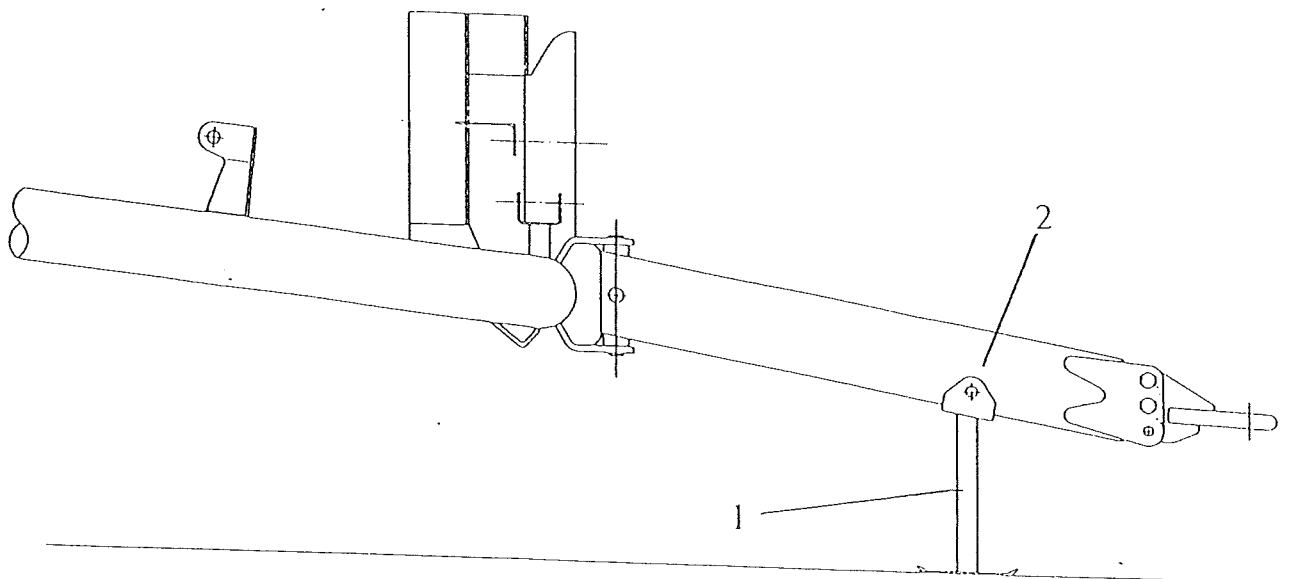
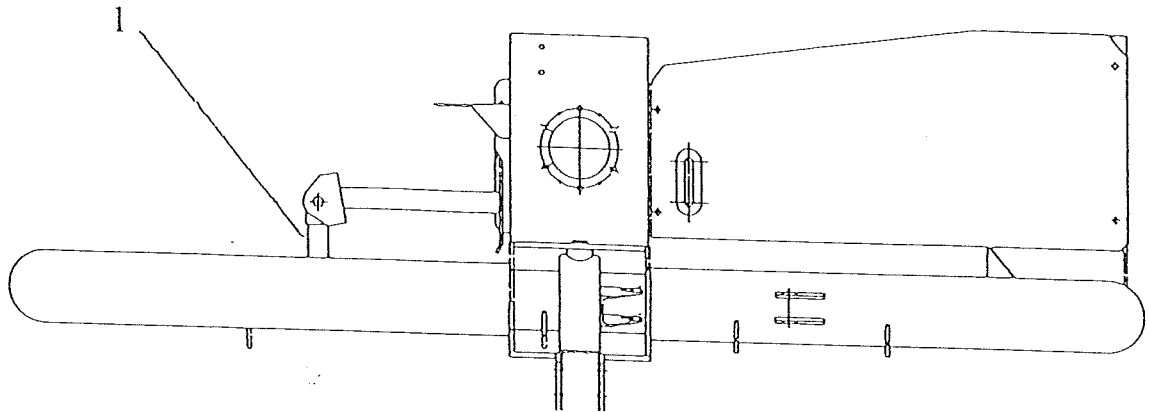

Fig 5.2
Fig 5.3
The jackstand is provided so that the machine is held at a suitable height for safely coupling to the tractor (fig 5.2 item 1).
When the machine has been securely attached to the tractor, remove the jackstand by removing the anchor pin that secures it. (Fig 5.2 item 2) Fit the jackstand into the storage bracket provided on the front of the main chassis, (Fig 5.3 item 1) and secure it with the original anchor pin.